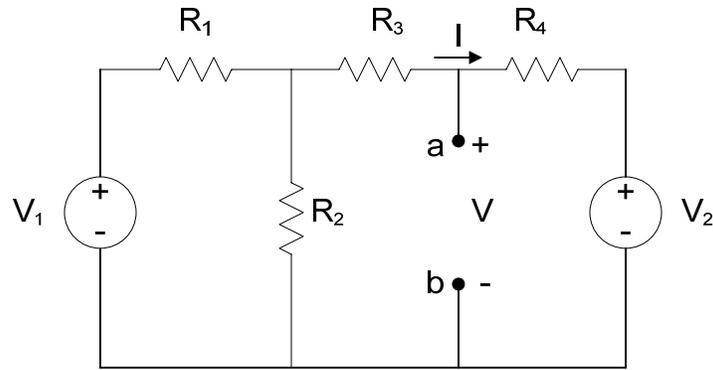

Fig. 2. The experimental arrangement with a Thevenin source.
3. Construct the circuit of Figure 2 by connecting a second source across the terminals a-b of the previous circuit. Use  $R_4 = 5.1 \text{ k}\Omega$ . Use the two outputs of the power supply for each of the sources.